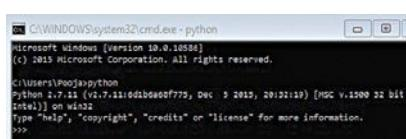

Fig. 10: Command Prompt
5. Open Command Prompt and type python (Fig. 10). This screen confirms proper installation of Python.